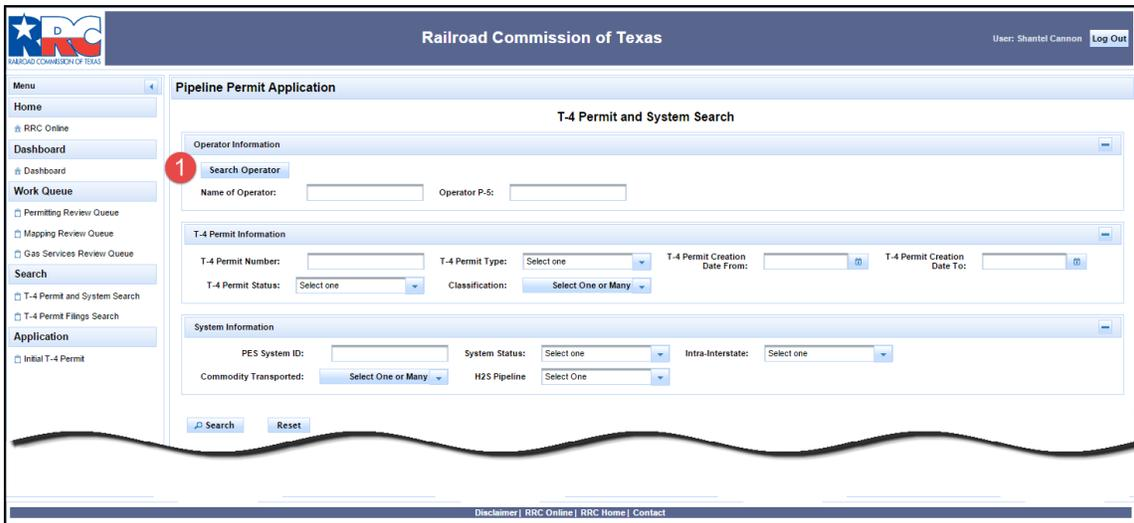

Figure 6: The T-4 Permit and System Search Tab
On the T-4 Permit and System Search screen, you can perform searches on Permits and Systems, including Permit Type, Permit Creation Date, and System Status. A sample T-4 Permit and System Search screen is depicted in Figure 6 below.
1. Click the **Search Operator** button to find your Operator Name, as shown in Figure 6 above.